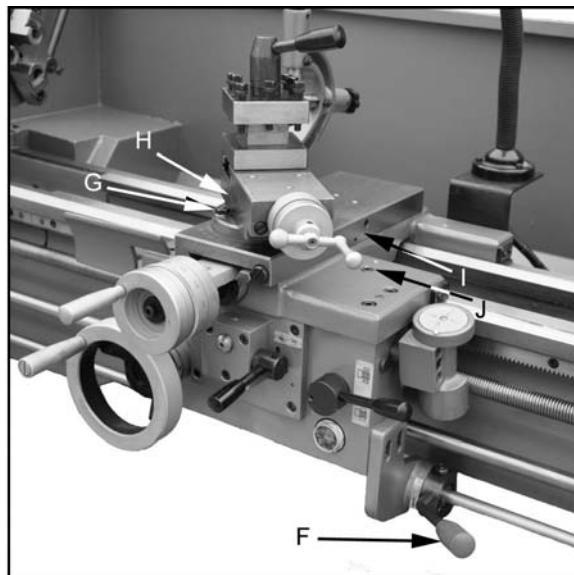

Figure 16
6. **Forward/Reverse Lever** (F, Fig. 16) – Pull lever up for clockwise spindle rotation (reverse). Push lever down for counter-clockwise spindle rotation (forward). Neutral position is a center detent and the spindle remains idle.
7. **Compound Rest Lock** (G, Fig. 16) – Turn hex nut clockwise to lock and counter-clockwise to unlock.
8. **Compound Slide Lock** (H, Fig. 16) – Turn set screw clockwise to tighten and counter-clockwise to loosen.
9. **Cross Slide Lock** (I, Fig. 16) – Turn set screw clockwise, and tighten to lock. Turn counter-clockwise and loosen to unlock. **Caution:** cross slide lock screw must be unlocked before engaging automatic feeds or damage to the lathe may occur.
10. **Carriage Lock** (J, Fig. 16) – Turn hex socket cap screw clockwise and tighten to lock. Turn counter-clockwise and loosen to unlock. **Caution:** Carriage lock screw must be unlocked before engaging automatic feeds or damage to lathe may occur.